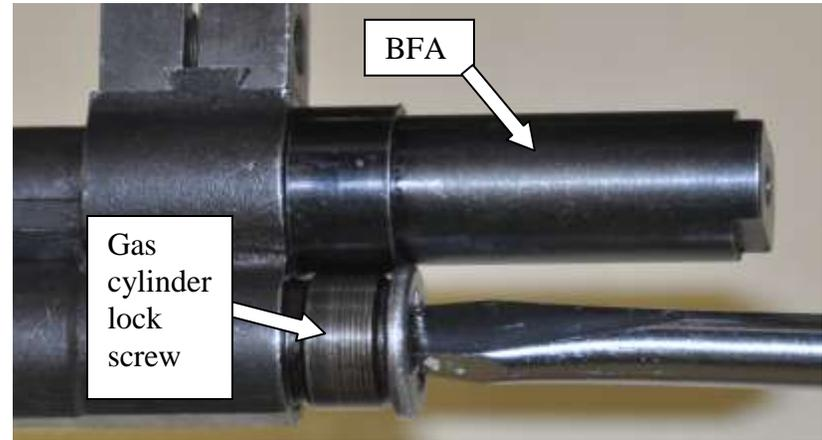
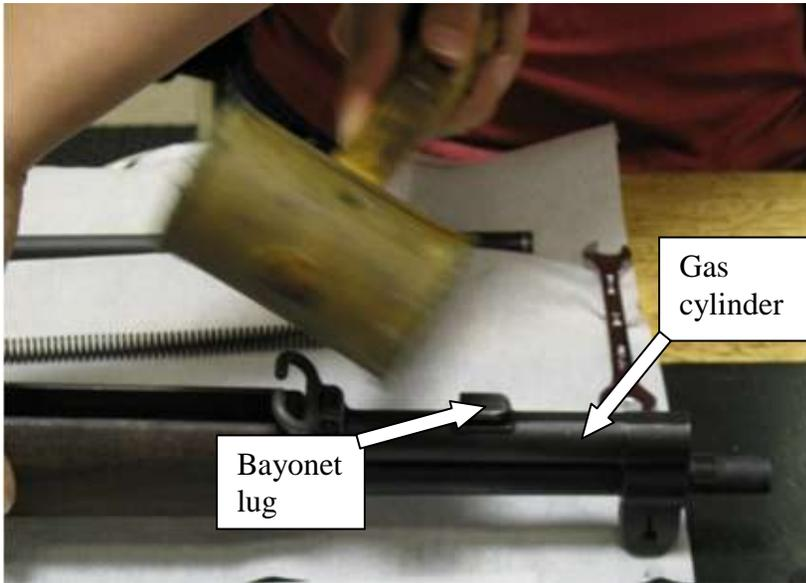
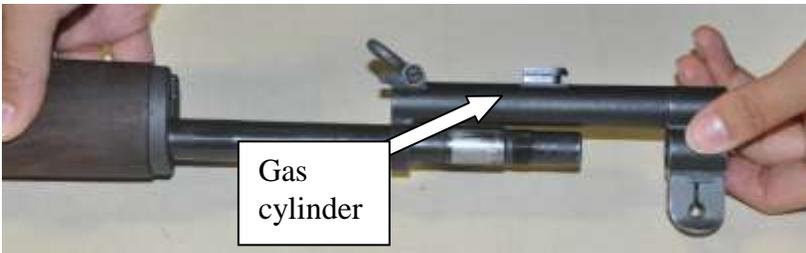

Figure 23 -Gas cylinder lock screw removal
Figure 25 -Loosen gas cylinder with wooden mallet
Figure 26 -Gas cylinder removal
- 7) Using a T-grip screwdriver (preferred) or a standard flathead screwdriver, unscrew and remove the gas cylinder lock screw and then unscrew the Blank Firing Adapter (BFA) (fig 23 and 24). If necessary apply light pressure with 7/16 inch wrench to remove the BFA. Loosen the gas cylinder by tapping lightly toward the muzzle on the bayonet lug with a wooden mallet or similar soft object (fig 25) and remove (fig 26).